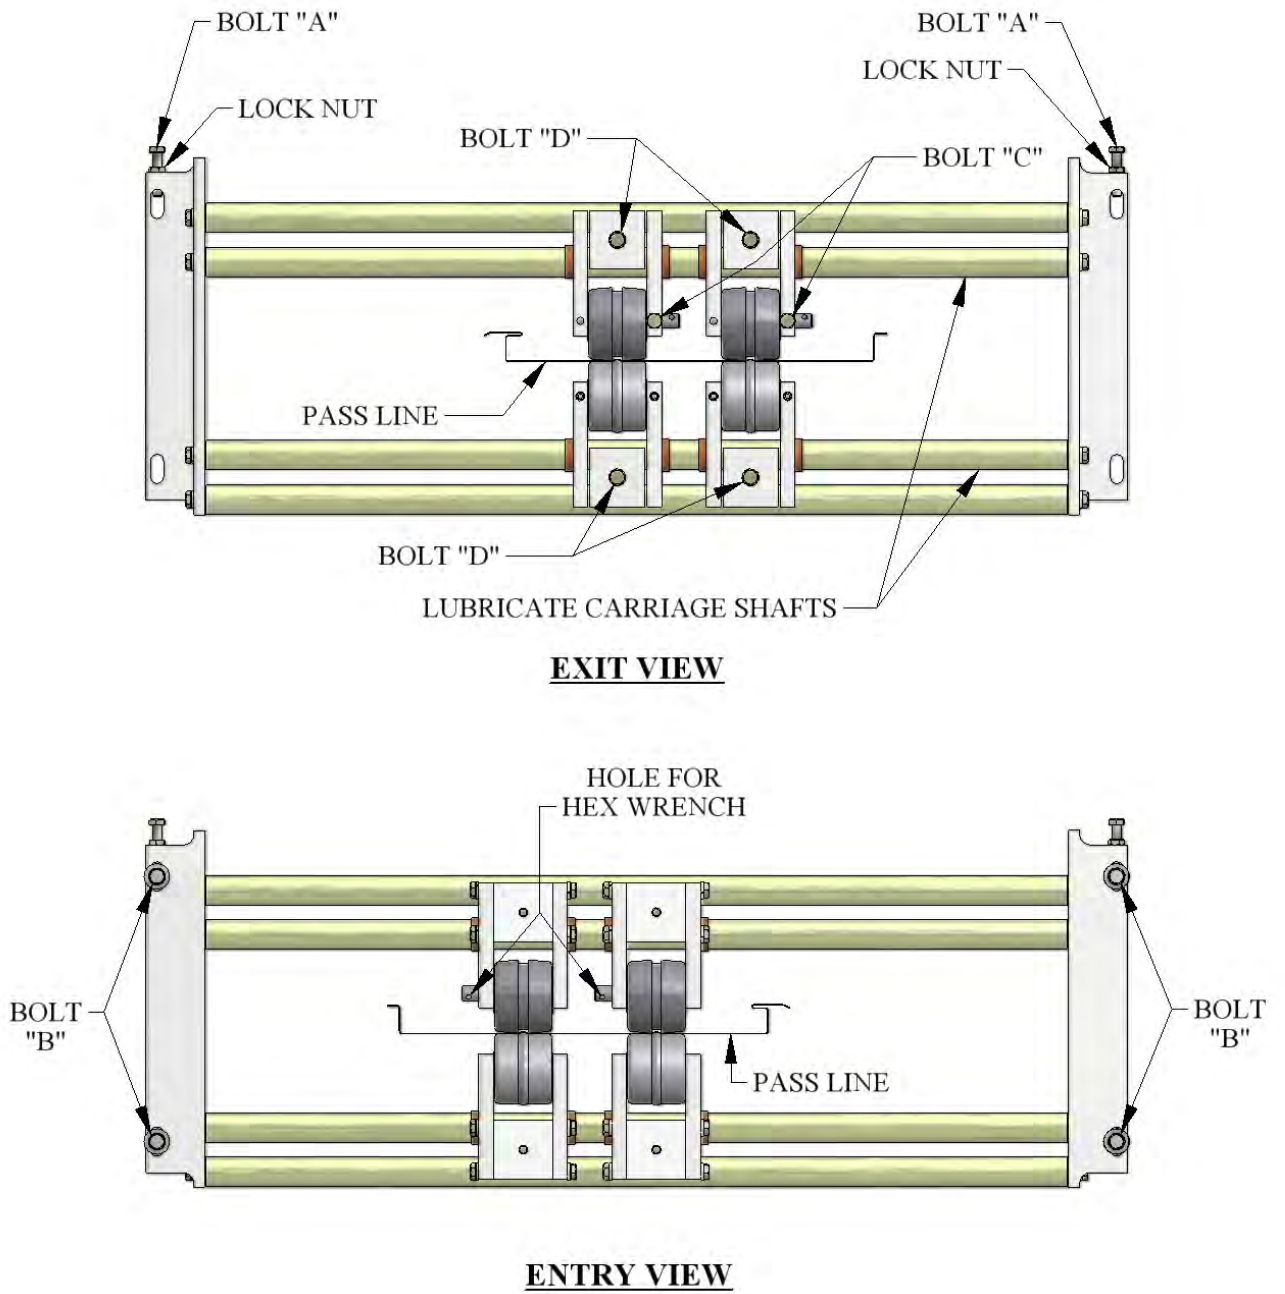

Figure 21: Bead Roller Assembly
1. The Bead Roller assembly (Figure 21) is located behind the shear and is accessed by removing the top cover. These rollers can be engaged or disengaged as needed and can also be moved left or right to accommodate different panel widths.